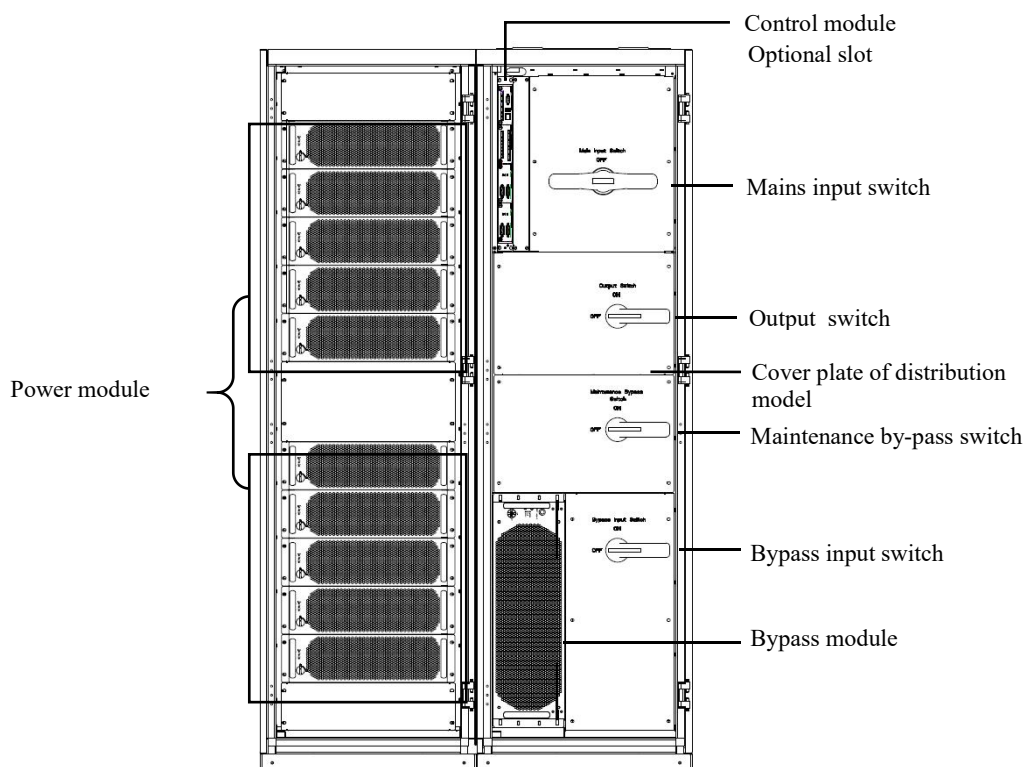

Fig. 1-10 Structure of 500kVA UPS (full-load)
6) The full-load structure of 500kVA UPS is shown in Fig. 1-10 in which the front door of the UPS is opened.